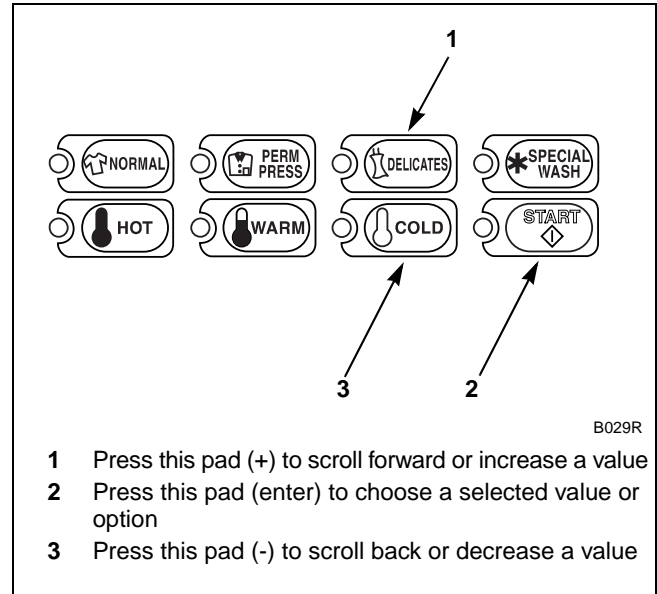

Figure 131
- Press the DELICATES (+) or the COLD (-) keypad to increase or decrease the current number of minutes displayed in the VFD to the desired number of minutes. Refer to *Figure 131*.
**NOTE: The Normal Wash Fill/Tumble Time can be set from zero (0) to 15 minutes.**